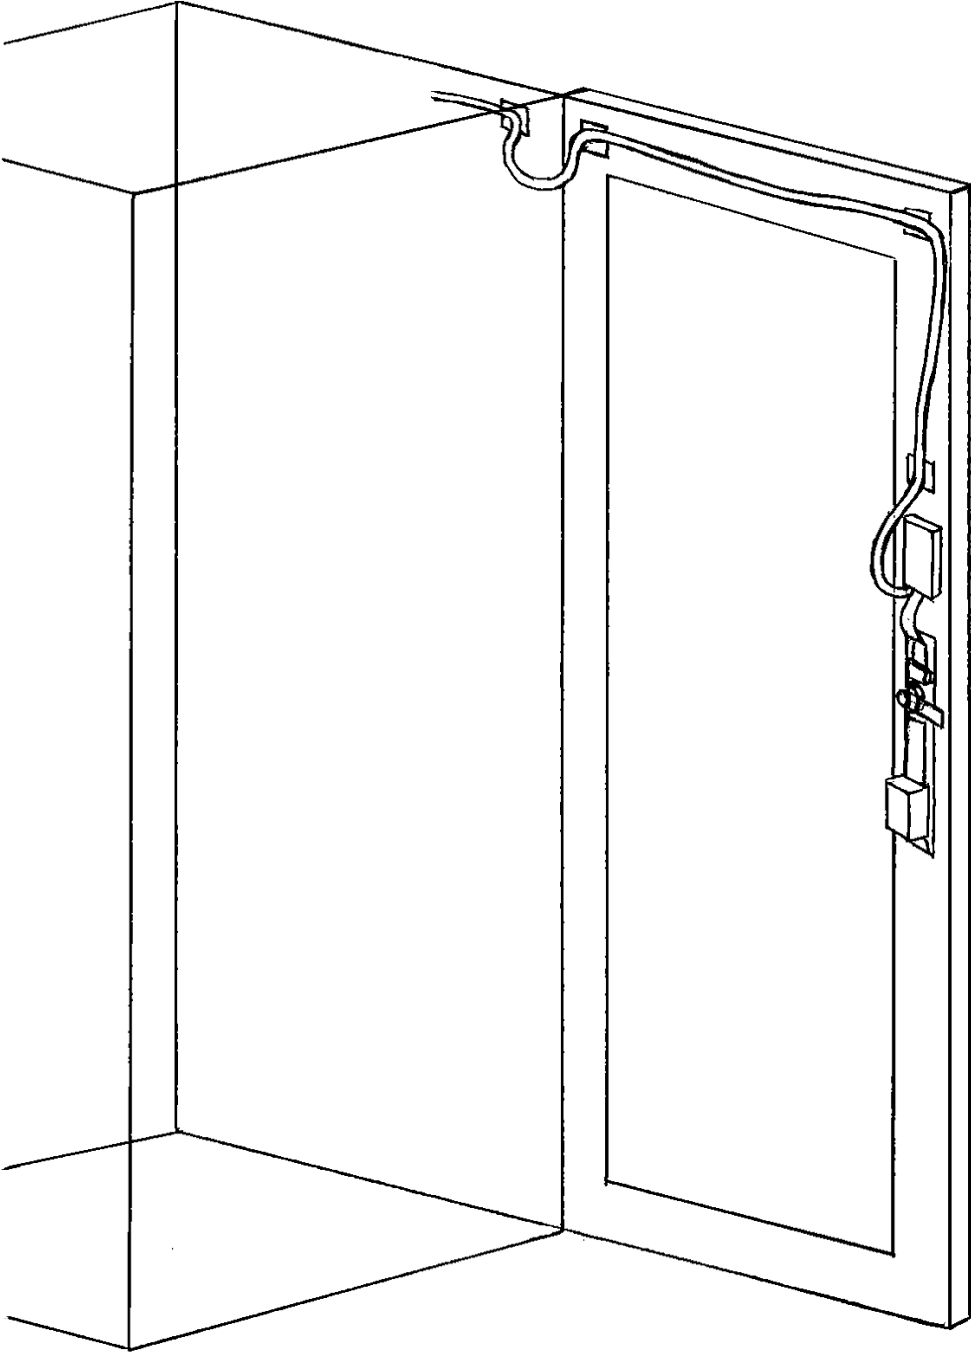

Figure 3
- Route the cable as show in Figure 3. Secure the cable to the tie-down pads using the supplied cable-ties.